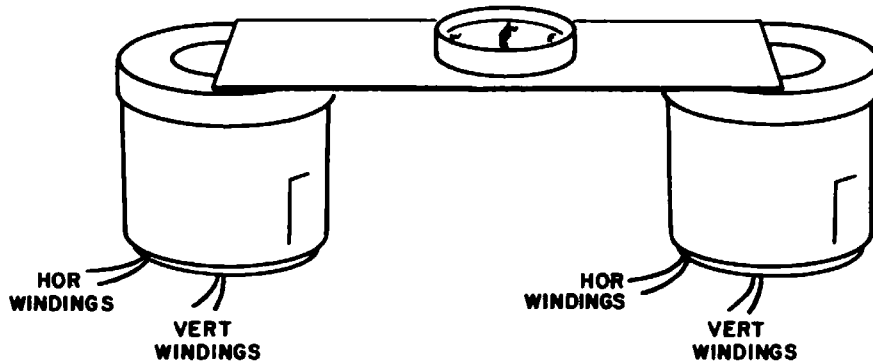

Fig. 7-5. Matching the leads of an original yoke to the leads of a different color-coded replacement yoke.
- b. Place a small piece of cardboard or wood across the yokes, and set a small compass on top of the cardboard (Fig. 7-5).